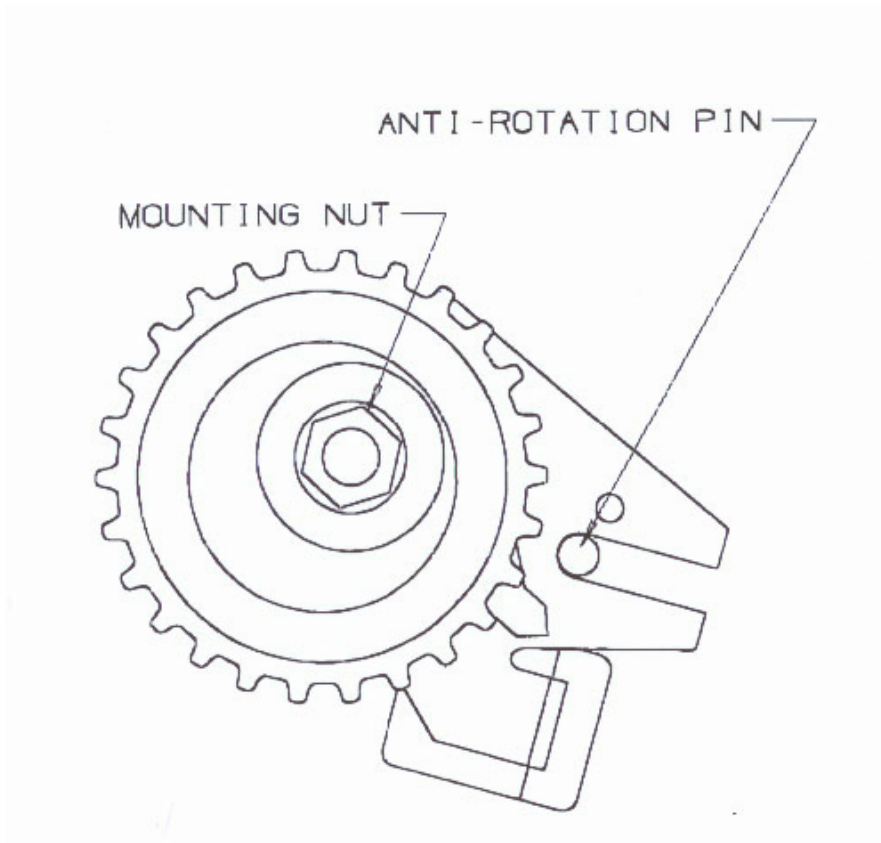

Figure 1: Tensioner shown at Free-Arm position placed on the mounting bracket.
4. Slide the tensioner to the farthest right for easier routing of the timing belt and hand tighten the M8 Mounting Nut (See Figure 1).